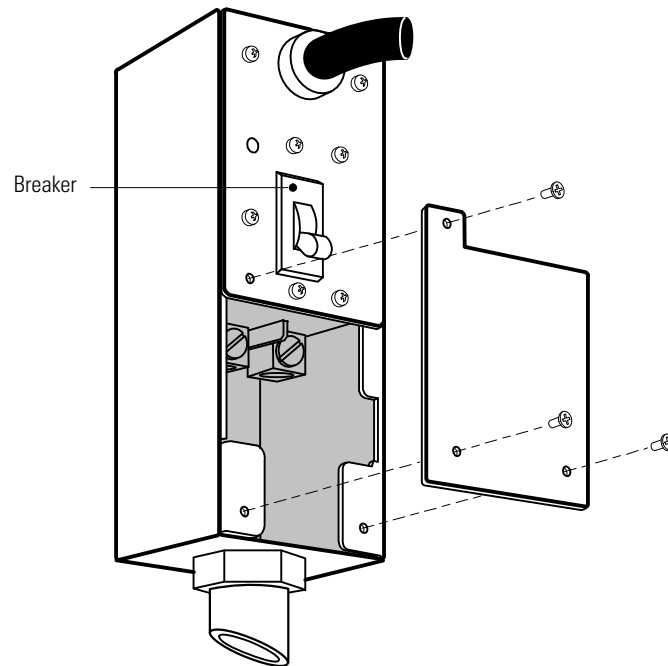

Figure 11. Access Customer Landing Section with Breaker Open (OFF)
1. Verify that the External Battery Interconnect breaker is open (OFF), as shown in Figure 11.
4. Remove the three Phillips screws to obtain access to the customer landing section (see Figure 11).